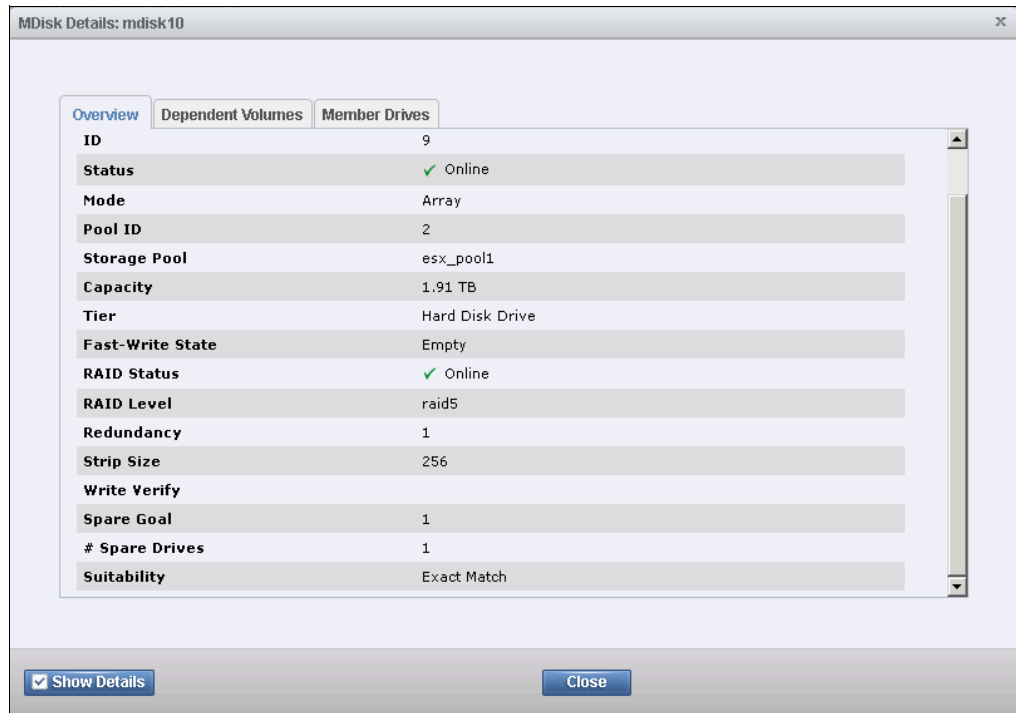

Figure 7-57 MDisk overview with detailed information
- Overview: Lists information about the MDisk. To show more details, click **Show Details** (Figure 7-57).